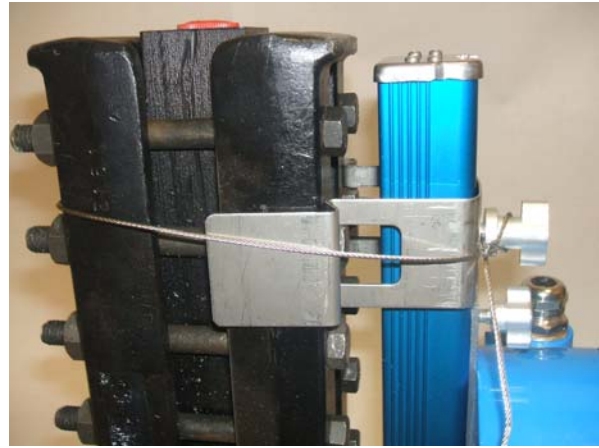

Figure 5
**Step 3:** While holding the top bracket in place, grab the thumb nut end of the cable, wrap around entire gauge and thread onto the stud until the bracket is secure. When wrapping the cable around the gauge, make sure to feed the cable above the bolt as shown above in Figure 5. Snug the cable and secure the thumb nut, but do not fully tighten the thumb nut at this time.